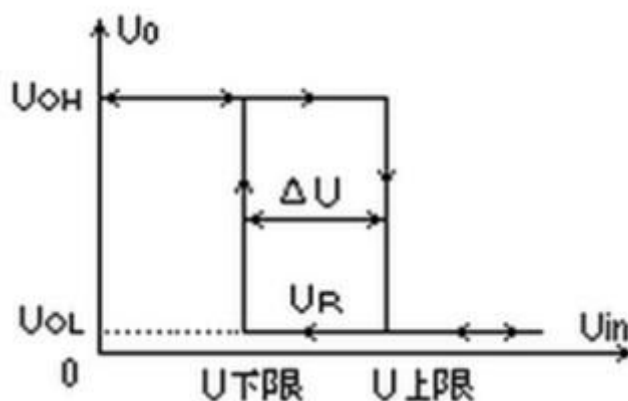

Figure 4
②SGM358 operational amplifier. When the analog signal output from TCRT5000 is accessed by comparator with hysteresis composed of SGM358, the analog signal will be transformed into a digital signal. SGM358 supports rail-to-rail input and output voltage, rail-to-rail operational amplifier allows the input potential to change from the negative supply to the positive supply in the entire interval, even slightly above the positive supply or slightly below the negative supply will also be allowed. The output characteristics of circuit SGM358 is shown in figure 4.